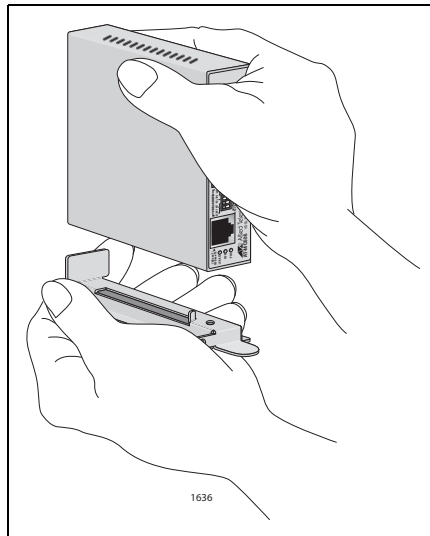

Figure 14. Rack Mount - Set on Slider
2. Attach the unit to one of the sliders that holds the unit in the chassis, as shown in Figure 14.